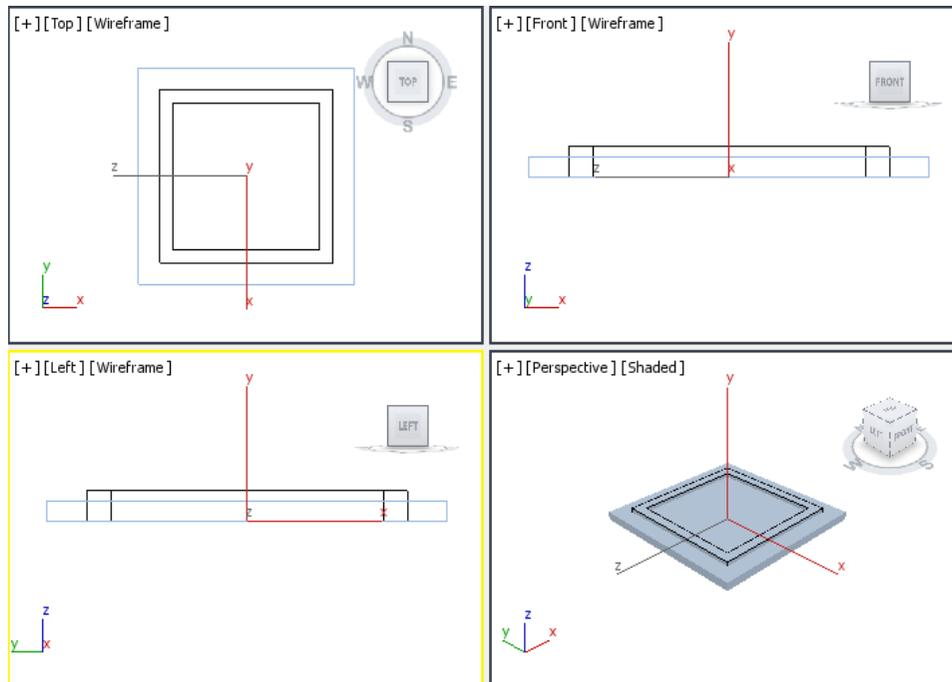

Figure 5-4 The Frame extruded by 15 units
- In the **Parameters** rollout, set the value **15** in the **Amount** spinner; *Frame* is extruded by 15 units, as shown in Figure 5-4.